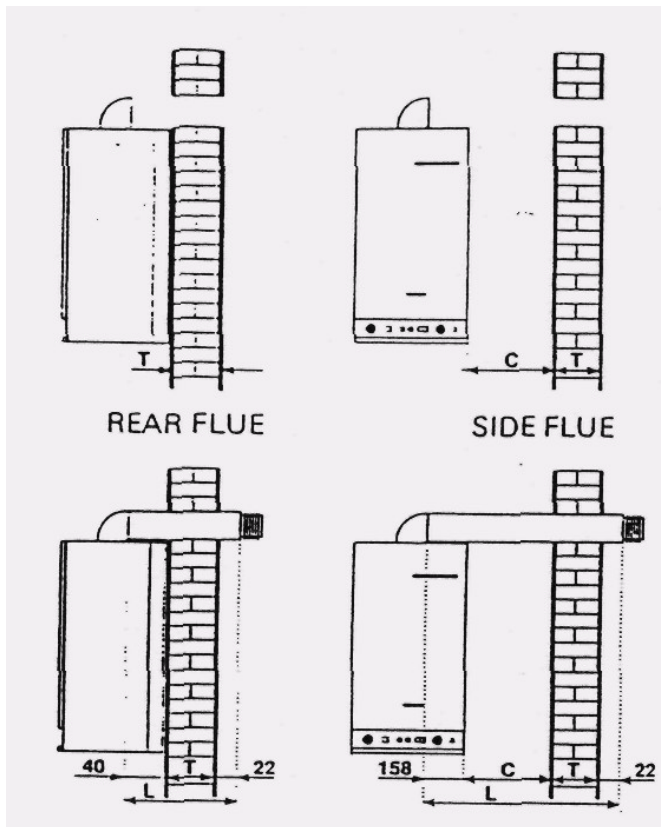

Fig. 4.3
- a Measure the wall thickness T (fig. 4.3).
k Check that the terminal protrudes the correct amount from the wall face (fig. 4.3).
- a Measure wall thickness T (fig. 4.3)